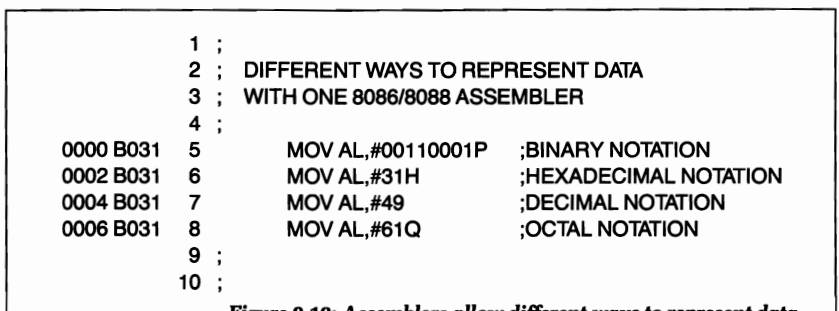

Figure 9.10: Assemblers allow different ways to represent data.
*Constants* may be expressed in decimal, hexadecimal, octal, binary, or as alphanumeric strings. Symbols used to represent the number bases vary from assembler to assembler. Figure 9.10 shows the different ways to represent data with one 8086/8088 assembler.